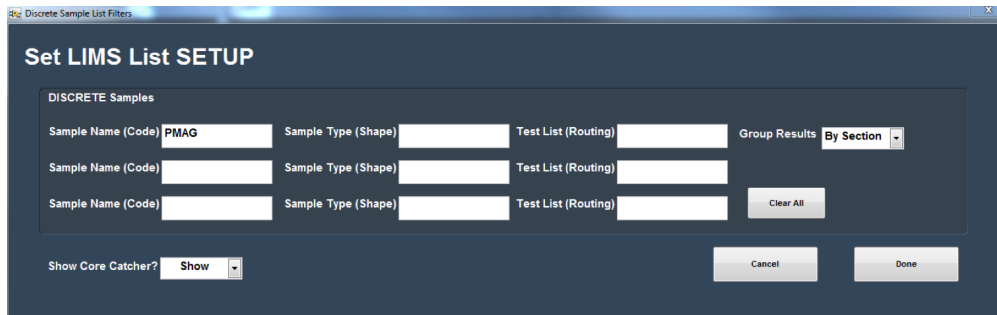

Figure 49- LIMS filter setup window
- Click **LIMS Filter** to open the LIMS Filter setup window (**Figure 49**).